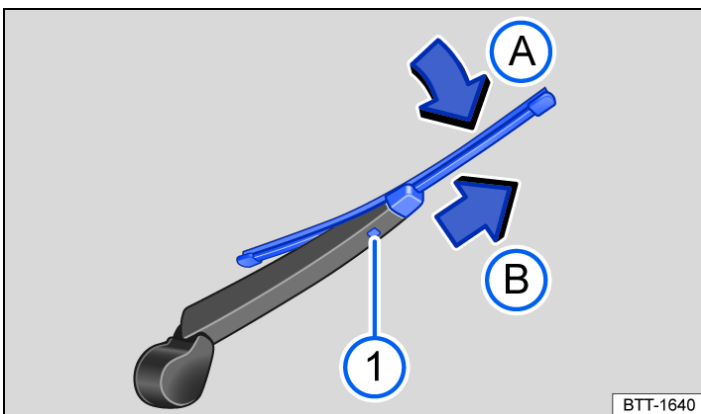

Fig. 2 Changing the wiper blade for the rear window.
- Press and hold the release button → Fig. 2 ¹.